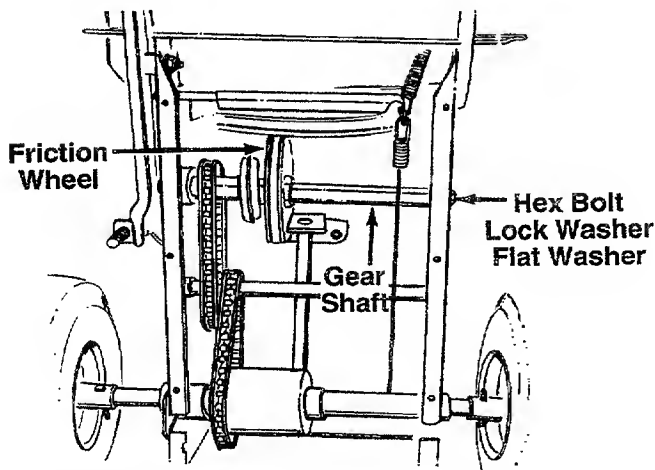

FIGURE 23.
- Remove the gear shaft from the unit by removing the hex bolts, lock washers and flat washers from each side of the frame. See figure 23. Hold the friction wheel assembly, and slide the gear shaft out of the unit toward the right side.